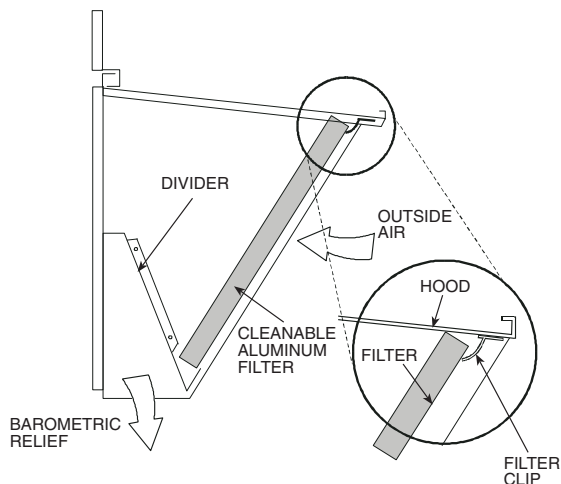

Fig. 17 — Economizer Filter Installation
4. Insert the hood divider between the hood sides. See Fig. 17. Secure hood divider with 3 screws on each hood side. The hood divider is also used as the bottom filter rack for the aluminum filter.
6. Open the filter clips which are located underneath the hood top. Insert the aluminum filters into the bottom filter rack (hood divider). Push the filter into position past the open filter clips. Close the filter clips to lock the filters into place. See Fig. 17.